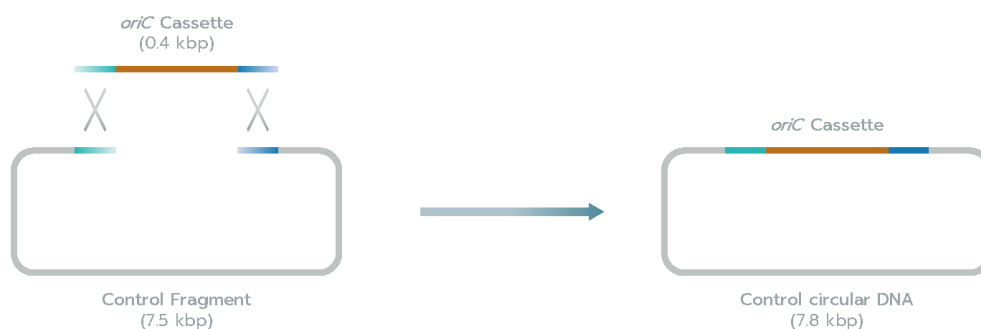

Figure 1. Schematic of *oriC* Cassette and Control Fragment
(1) 2X RA Mix	12.5 μ l
(3) Control Fragment (1 ng/ μ l)	5 μ l
(4) 10X RE Mix	10 μ l
(5) 5X Buffer I	40 μ l
(6) 5X Buffer II	40 μ l
*1 : *oriC* Cassette is a 378 bp DNA fragment containing *oriC* (*E. coli* chromosomal origin) sequence. Both ends of the *oriC* Cassette have 40 bp overlapping sequences against Control Fragment (7.5 kb) (Fig. 1). See Appendix for sequence information.